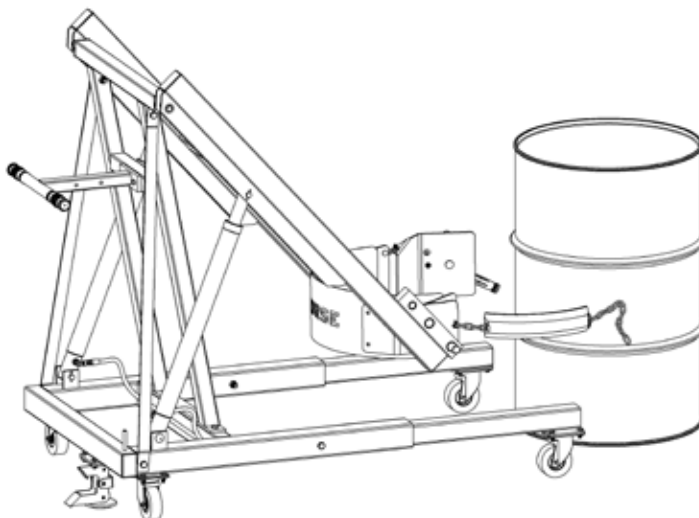

Figure 3.1
The step-down floor lock is located behind the base (figure 3.1). To activate, step down on the floor lock until it locks in the down position. When the floor lock is activated it prevents unwanted free wheeling of the unit. Floor conditions determine the effectiveness of the floor lock. The operator should verify its holding action before depending on it to hold.
- 2.) Using the "LIFT" control as described in "**Machine Description - Controls**" (page 3) , position the drum holder assembly with the back band at the middle of the drum. (Figure 3.1). With the ratchet plate swung open and the cinch chain hanging from the chain hook, push the unit until the back band rests firmly against the drum. Some adjustment to the tilt angle of the saddle may be necessary to ensure band fits flush on the drum.